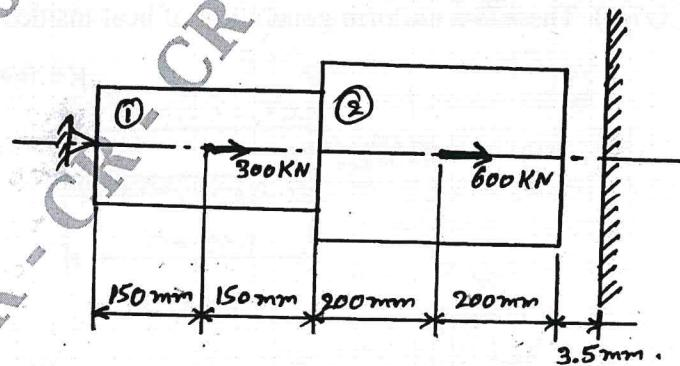

Fig Q4(a)
4. a. For the Bar shown in Fig Q4(a), determine the Nodal Displacement, Element stresses and support reactions. Take, $A_1 = 250\text{mm}^2$, $A_2 = 400\text{mm}^2$, $E_1 = E_2 = 200\text{GPa}$,